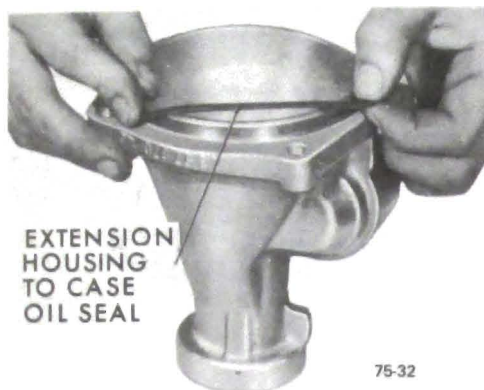

Figure 75-273
1. Install extension housing to case square cut "O" - ring seal. See Figure 75-273.